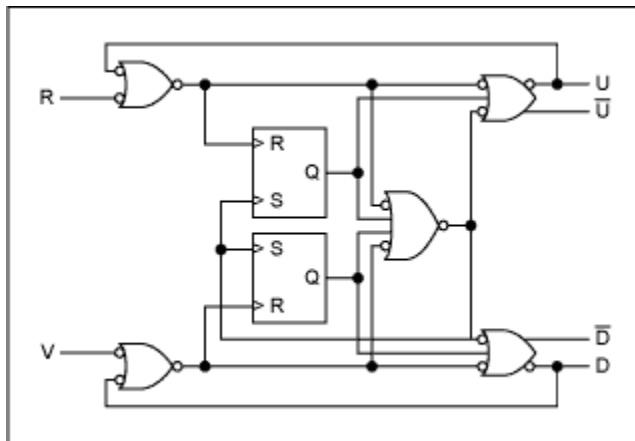
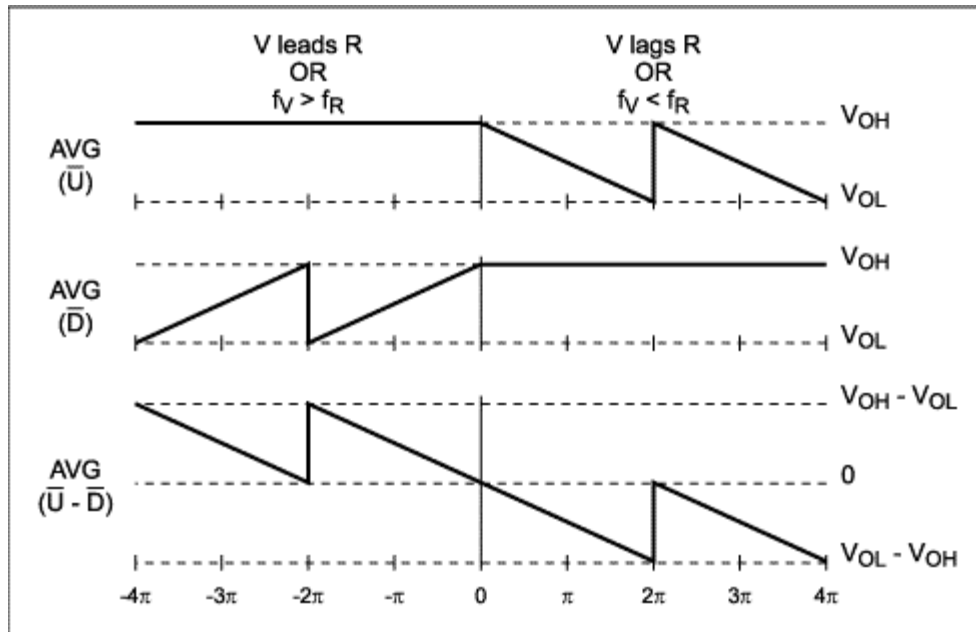

Figure 1. The MAX9382 phase/frequency detector
Figure 2. Ideal response of the MAX9382 phase/frequency detector
The MAX9382 converts the input phase difference into a series of variable width pulses on two outputs. These outputs are the "up" and "down" signals required to control the loop filter charge pump. When the two inputs are at dissimilar frequencies, the MAX9382 acts as a frequency detector with the time averaged value of the outputs being a function of the input frequency difference. This behavior greatly improves the loop ability to lock to out-of-band signals. Figure 1 shows a diagram of the MAX9382. Figure 2 shows the average (DC) value of the MAX9382 outputs as a function of input phase difference. Equations 1, 2 and 3 show the phase/frequency detector transfer functions when the input frequencies are equal (loop lock condition) and when the inputs are at different frequencies (loop-out-of-lock).